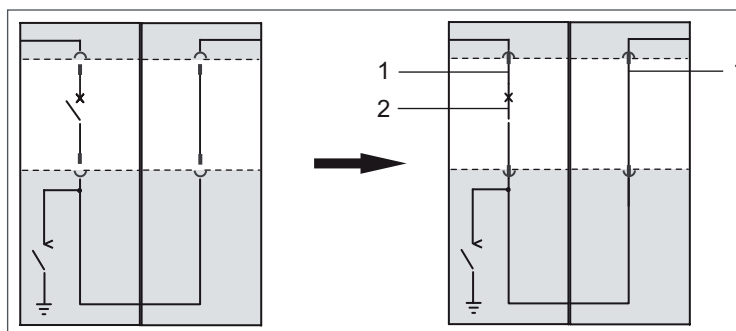

Figure 58
1. Move both the trucks to the service position (Figure 58, 1).
2. Switch circuit breaker ON (2).
1. Move the truck to the service position (Figure 58, 1).